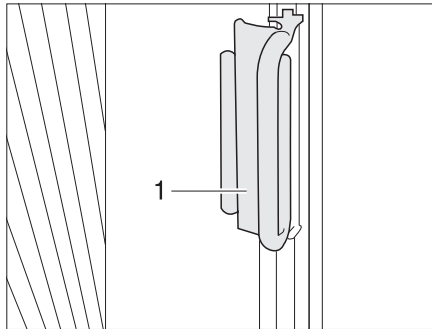

Fig. 9 Handle for folding blackout driver/passenger window
- On the Roman shades for the driver's and passenger's window, push the handle (Fig. 9,1) onto the cap.